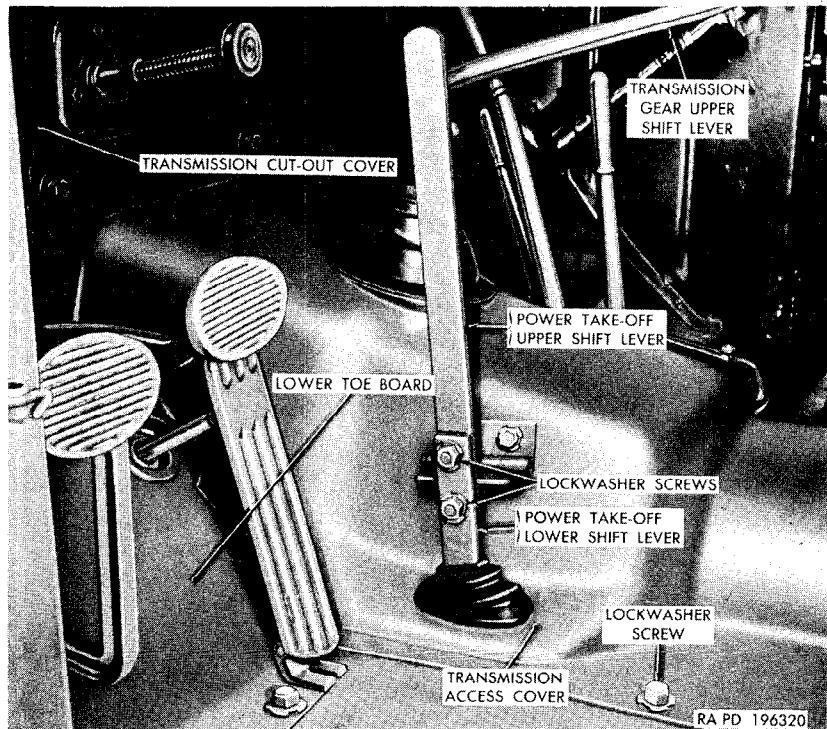

Figure 87. Items removed in driver's compartment.
- (6) On engines equipped with a priming system, disconnect the priming system line (R) from the tee-type nozzle (Q) at the intake manifold rear port.
- (7) Disconnect the upper exhaust pipe (P) from the lower exhaust pipe by loosening the eyebolt nuts and disengaging the two eye bolts.
- (8) Remove the nut, lockwasher, screw, and plain washer that secure the engine front support plate (F) to the support plate bracket.
- (9) Remove the cotter pin, slotted nut (N), and plain washer from the engine rear support bolt. Remove the bolt, plain washer, and lower insulator. Discard the insulator.
g. Remove Transmission Access Covers (fig. 87).
- (1) Remove the two lockwasher screws that secure the power-take-off upper shift lever to the lower shift lever and remove the upper lever (on vehicles so equipped).
- (2) Remove the transmission gearshift upper lever from the lower lever by removing the nut, lockwasher, and bolt.
- (3) Remove the 18 lockwasher screws that secure the transmission access cover and the transmission cut-out cover, and remove both covers.
- (1) Position the ground strap on the clutch housing and install the $\frac{3}{8}$ -16NC x 1 screw and $\frac{3}{8}$ -inch internal-external-teeth lockwasher. Tighten the screw.
- (2) Aligne the intermediate propeller shaft universal joint yoke flange holes with the holes in the companion flange at the rear of the transmission. Install the four $\frac{7}{16}$ -20NF x $1\frac{1}{4}$ bolts through the companion flange and yoke. Install the four $\frac{7}{16}$ -inch lockwashers followed by the $\frac{7}{16}$ -20NF nuts. Tighten the nuts evenly.
- (3) Position the transfer control lever bracket and assembled parts at the right side of the transmission, alining the screw holes in the bracket with those in the transmission case. Install the three $\frac{3}{8}$ -inch lockwashers and $\frac{3}{8}$ -16NC x $2\frac{5}{8}$ cap screws. Tighten the screws evenly.
- (4) Install the battery-to-starter cable through to the engine compartment and engage the cable in the cable clip on the transmission.
f. Install Transmission Access Covers (fig. 87).
- (1) Position the transmission cutout access cover on the dash panel and install the three $\frac{7}{16}$ -20NF x $\frac{7}{8}$ external-teeth lock-washer screws in three upper holes.
- (2) Install the transmission access cover and the fourteen $\frac{7}{16}$ -20NF x $\frac{7}{8}$ external-teeth lockwasher screws. Tighten the screws.
- (3) Install the transmission gearshift upper lever on the lower lever and install the $\frac{7}{16}$ -20NF x 2 bolt, $\frac{7}{16}$ -inch lockwasher, and $\frac{7}{16}$ -20NF nut. Tighten the nut.
- (4) Position the power-take-off upper shift lever on the lower shift lever with the screw holes alined. Install the two $\frac{7}{16}$ -20NF x $\frac{7}{8}$ external-teeth lockwasher screws. Tighten the screws.